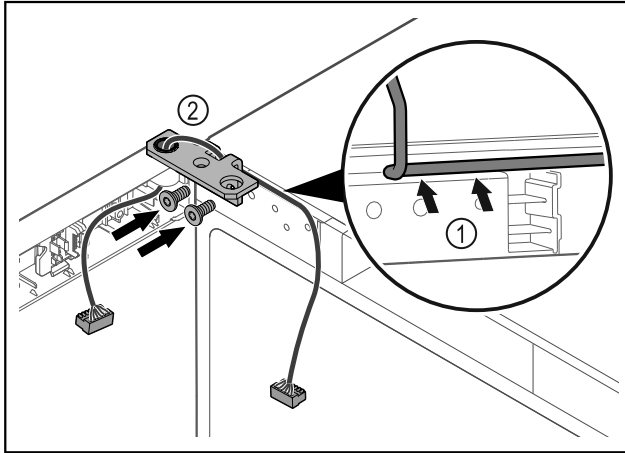

Fig. 41
- ▶ Feed the cable through the recess in the hinge and lay it carefully Fig. 41 (1).
- ▶ Screw on the hinge Fig. 41 (2).